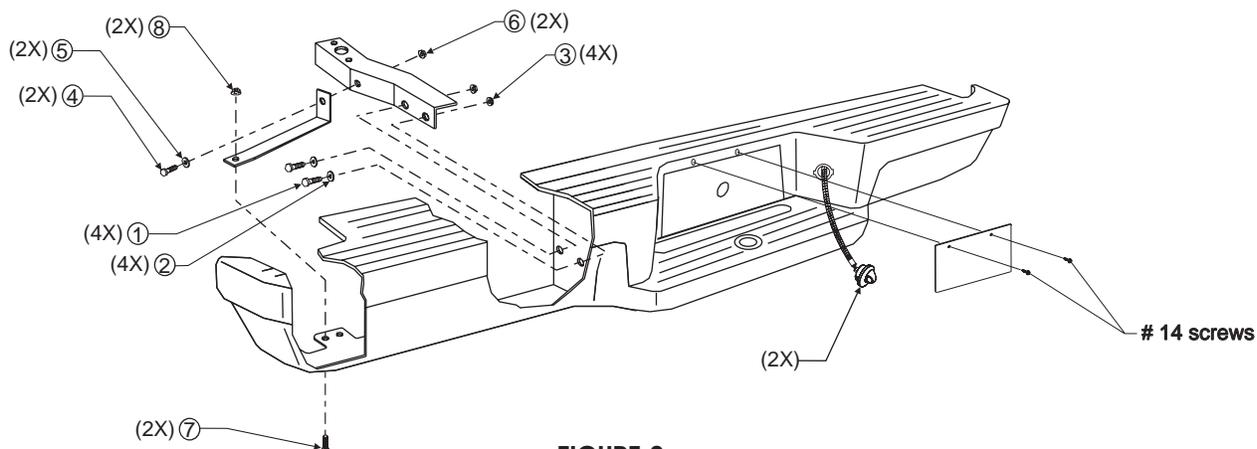
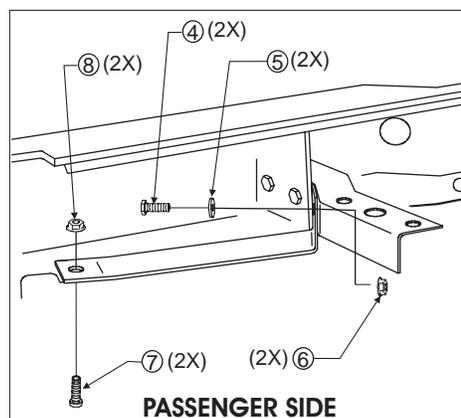

FIGURE 2
FIGURE 3.1
- STEP 5. Pass (1) 1/2"-13 X 1.25" hex head bolt and (1) 1/2" flat washer through each mounting bracket hole and hitch Hole. Refer to Figure 2.
- STEP 6. Hand tighten (1) 1/2"-13 flange lock hex nut onto each bolt. Use a 3/4" combination wrench to prevent each bolt from rotating while tightening each nut.
- STEP 9. Position the support braces as shown, aligning the support brace holes with the holes on the mounting bracket. Make sure the brace is not upside down or mounted on the wrong side. Refer to Figure 3.1
- STEP 10. Pass (1) 7/16"-14 X 1.00" hex head bolt and (1) 7/16" flat washer through each of the top brace mounting holes. Refer to Figure 3.1
- STEP 11. Hand tighten (1) 7/16"-14 flange lock hex nut onto each bolt. Use a 5/8" combination wrench to prevent each bolt from rotating while tightening each nut. Using a 11/16" socket, torque each nut to 48-53 ft. lbs. (65-70 N m)
- STEP 12. Pass (1) 3/8"-16 x 1.00" button head bolt through each of the bottom brace mounting holes. Refer to Figure 3.1
- STEP 13. Hand tighten (1) 3/8"-16 flange lock hex nut onto each bolt. Use a 7/32" hex key to prevent each bolt from rotating while tightening each nut. Using a 9/16" socket, torque each nut 32-37 ft. lbs. (44-49 N m)
- STEP 14. Use #14 self-tapping screws supplied in the light kit to install license plate. Refer to Figure 2